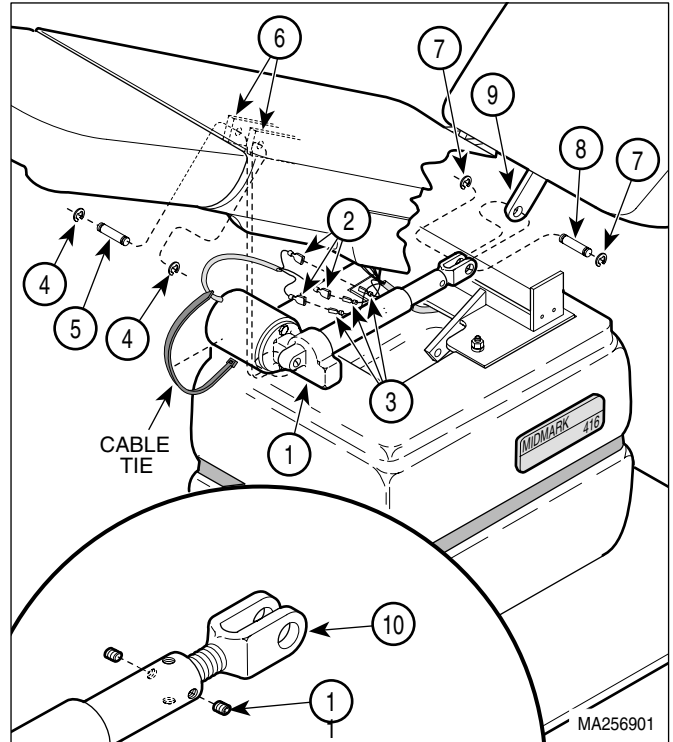

Figure 4-11. Back Actuator Assembly
- (3) Unplug power cord from wall outlet.
- (4) Cut cable tie securing wires to motor of back actuator assembly (1, Figure 4-11).
- (5) Tag and disconnect electrical leads to the back actuator.
- (1) Secure yoke (10, Figure 4-11) in position by tightening two setscrews (11).